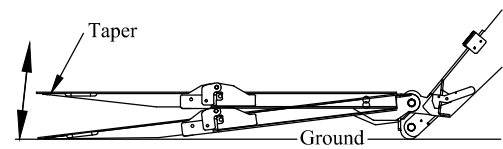

Figure 27: Step 10.
10. **To lower** the platform to the ground push down on the control toggle. The platform will lower and the taper will tilt until the platform taper touches the ground (Figure 27).